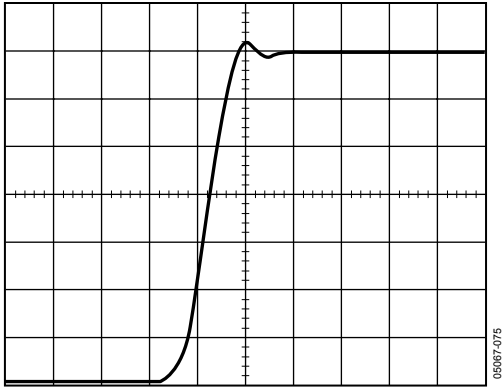
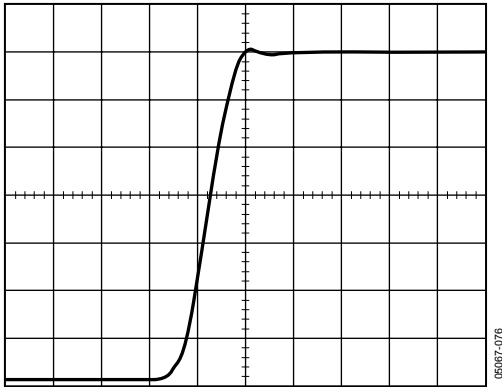
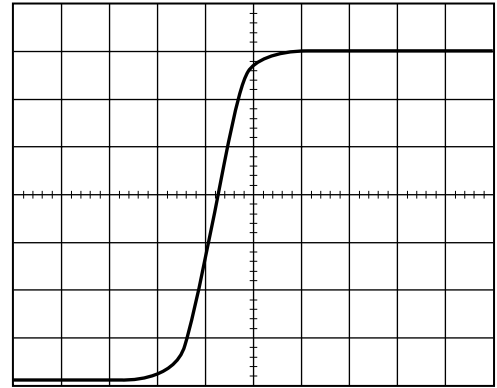

Figure 75. Input Signal to Adaptive Filter Control
Figure 76. Output Signal with Adaptive Filter Control (Mode A)
Figure 77. Output Signal with Adaptive Filter Control (Mode B)
Figure 75 and Figure 76 show how a typical signal is processed by the adaptive filter control block in Mode A.
The register settings in Table 35 were used to obtain the results shown in Figure 76 (to remove the ringing on the Y signal). Input data was generated by an external signal source.
**Table 35. Register Settings for Figure 76**
When changing the adaptive filter mode to Mode B [Address 0x15, Bit 6], the output shown in Figure 77 can be obtained from the input signal shown in Figure 75.